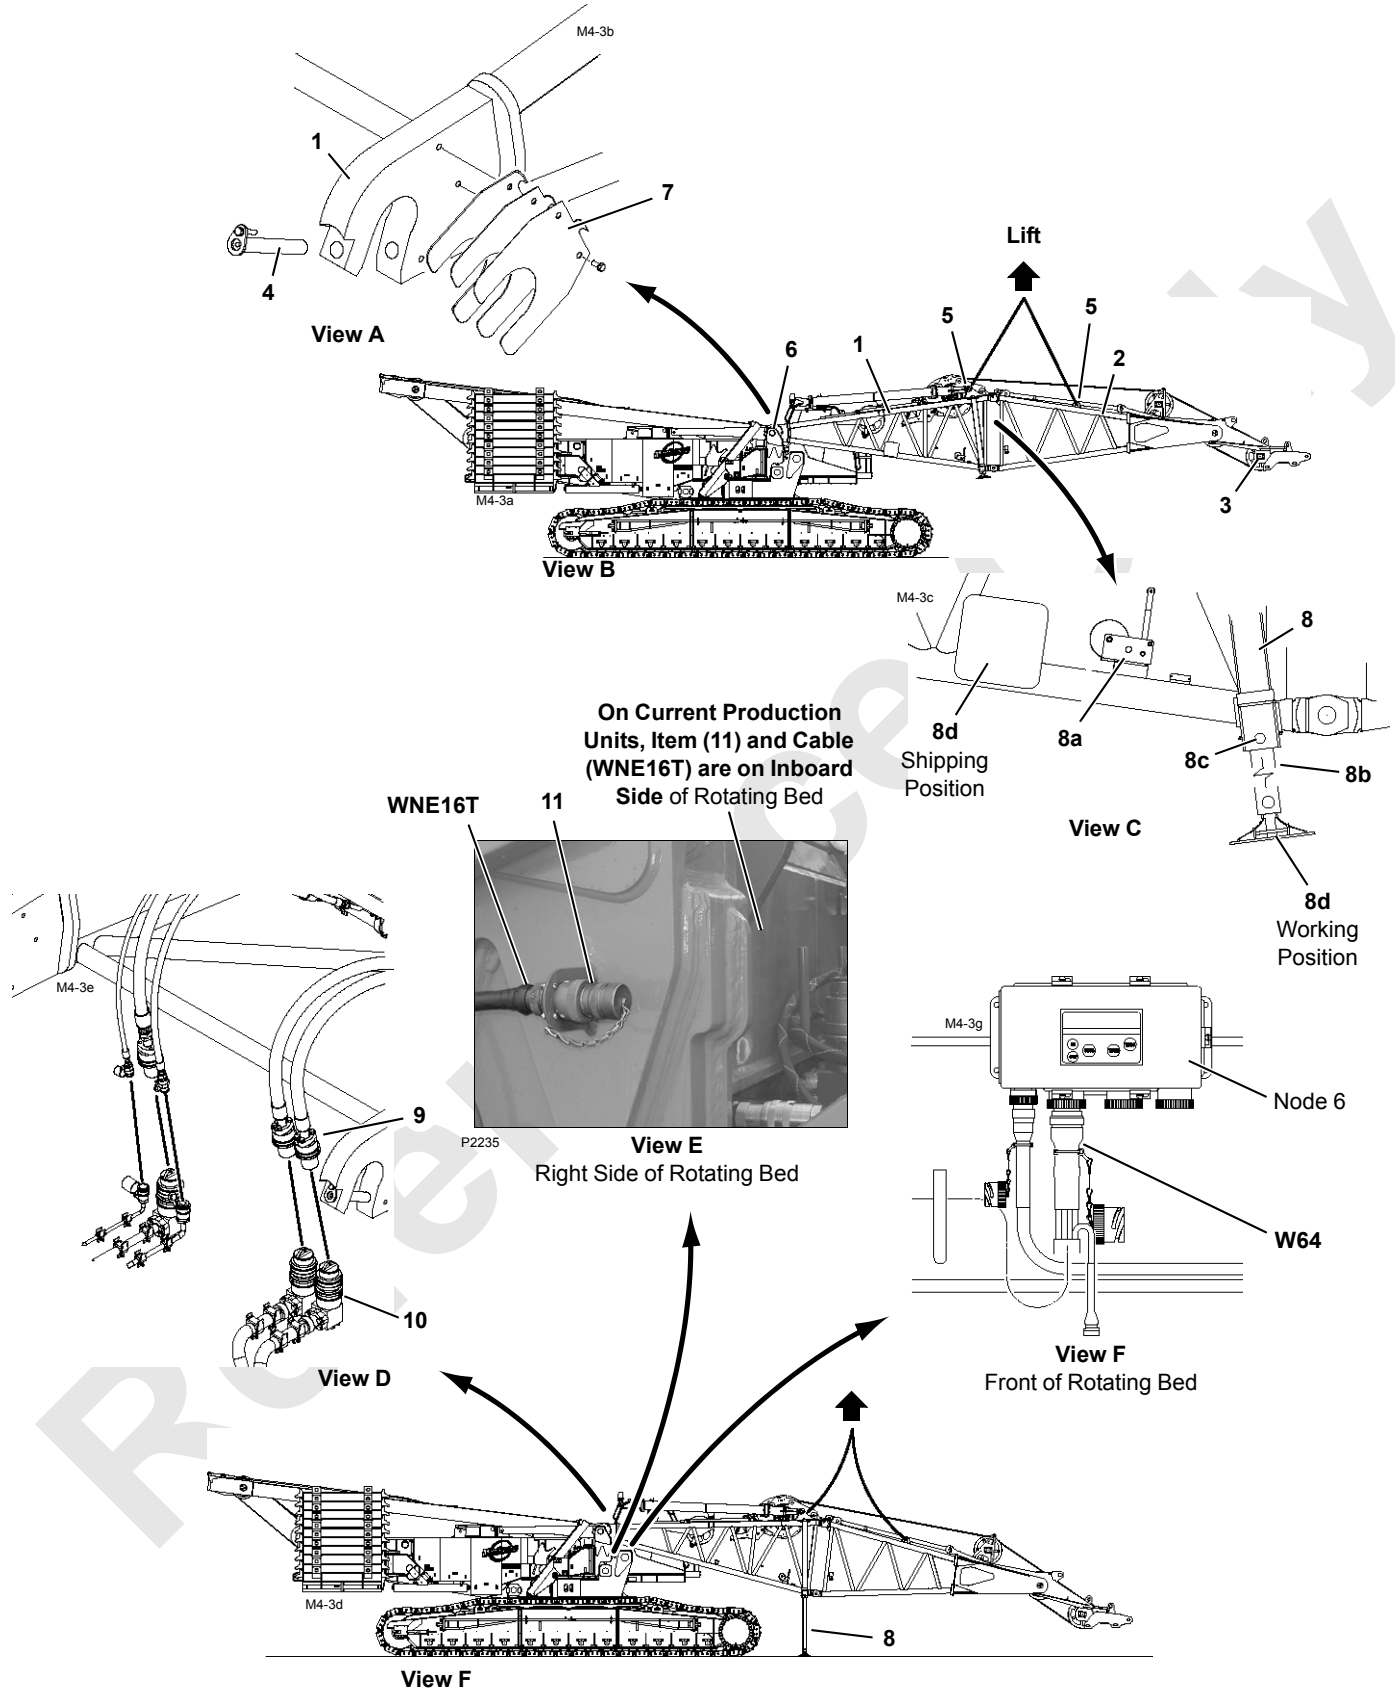

FIGURE 4-4
NOTE: The engine will not start when the boom is removed until terminating plug (11, View E, Figure 4-4) is connected to electric cable (WNE16T).
Legend for Figure 4-4
See Figure 4-4 for the following procedure.
6. Store mast supports (Figure 4-4, View C):